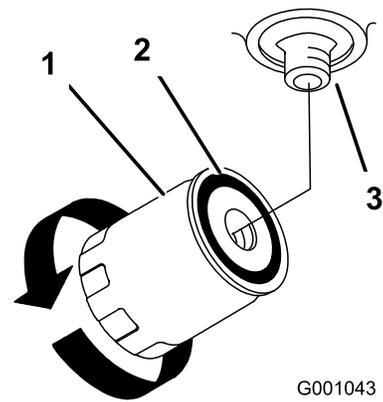

Figure 80
7. Apply a thin coat to the rubber gasket on the replacement filter (Figure 80).
9. Fill the hydraulic tank with hydraulic fluid until the fluid overflows the filter and then turn the fluid filter clockwise until the rubber gasket contacts the filter adapter, then tighten the filter an additional 1/2 turn (Figure 80).